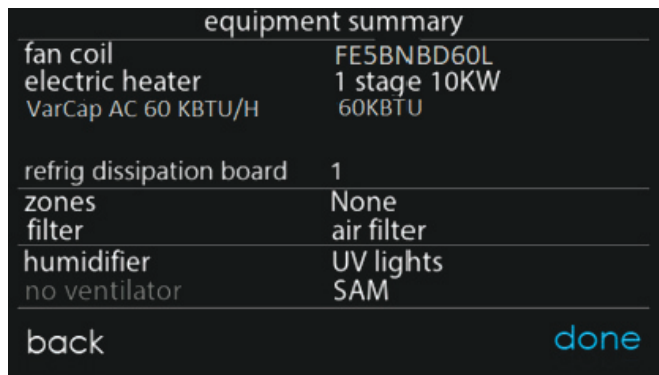

Fig. 11 – Equipment Summary Screen
4. The Ion™ Black System Control will advance through the remaining learning processes including the setup of accessories such as filter type, UV light, and humidifier. Upon completion of the setup screens, the equipment summary screen will be presented (Fig. 11). Verify the correct equipment is shown on this screen. Next an airflow verification test is executed before returning to the main screen.